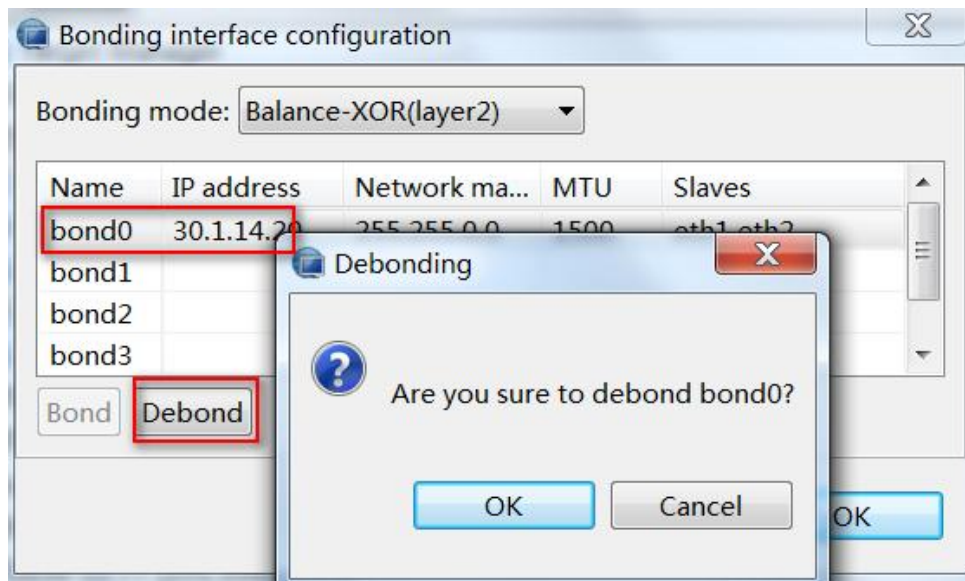

Figure 10-16 Debonding
- (1) Right click the controller name to be set, select **[Server Maintenance > Configure Network]** and click the **[Advanced]** option on the popup dialogue box, as shown in the following Figure 10-16:
- (2) From the “**Advanced Network Configuration**” dialogue box, you can add, modify and delete a route, and also configure the default gateway.